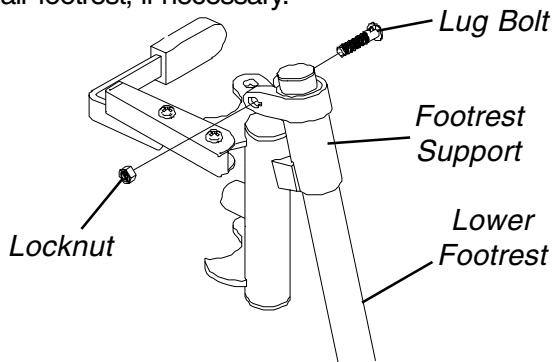

FIGURE 3 - ADJUSTING FOOTREST HEIGHT - P93M MODEL FOOTRESTS
**P93M Model Footrests (FIGURE 3)**